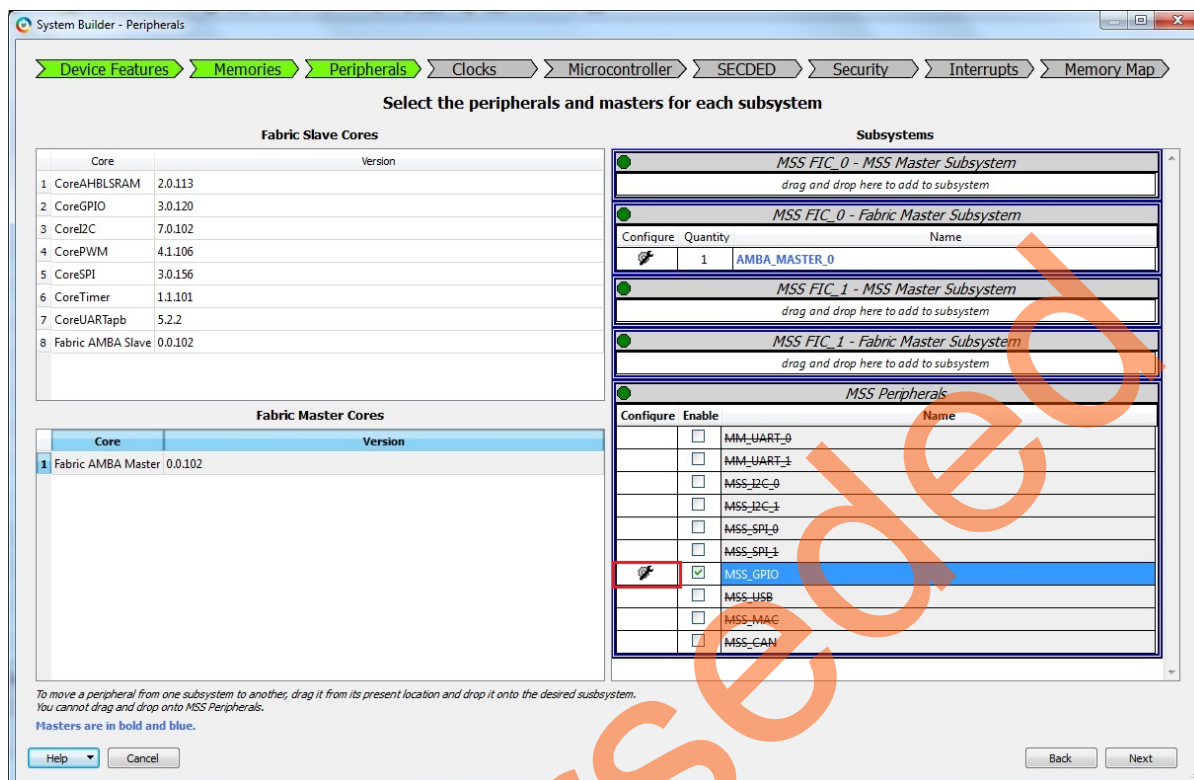

Figure 11 • System Builder – Peripherals Page
13. Configure MSS_GPIO by clicking **MSS_GPIO Configure** as shown in Figure 11.
14. Double-click **MSS_GPIO** configuration button as shown in Figure 11 and configure: